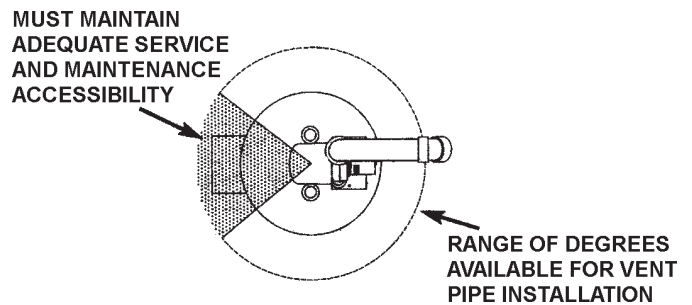

FIGURE 15.
- The location selection must provide clearances for servicing and proper operation of the water heater, see Figure 15.